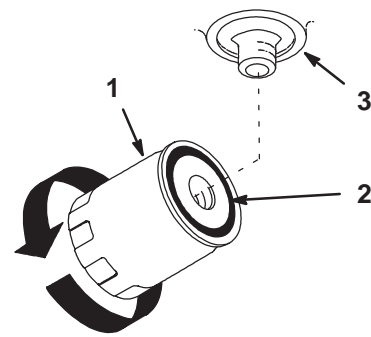

Figure 45
4. Apply a thin coat hydro fluid to the rubber gasket on the replacement filter (Fig. 45).
6. Fill the hydraulic tank with hydraulic fluid until the fluid overflows the filter and then turn the oil filter clockwise until the rubber gasket contacts the filter adapter, then tighten the filter an additional 1/2 turn (Fig. 45).